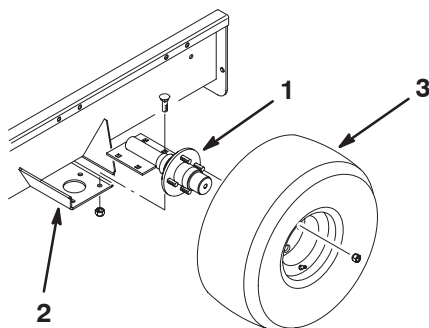

Figure 2
2. Mount a axle to mounting bracket on each side of trailer bed with (4) carriage bolts and locknuts (Fig. 2).
3. Mount a wheel assembly to each axle hub with (4) lug nuts (Fig. 2). Tighten nut to 80 ft/lb. Inflate tires to 5 psi.